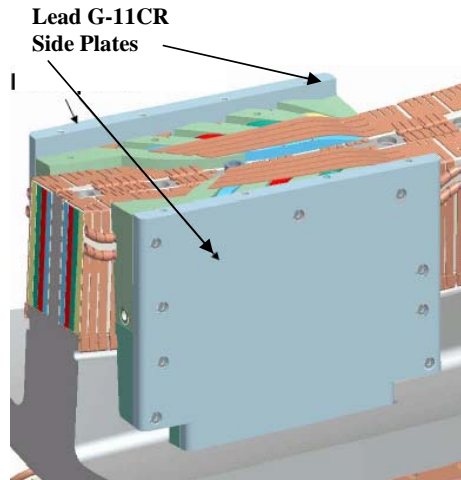

Figure 35- Lead Area Side Plates
- 6.42.3 Re-install the chill plate/side plate assembly and secure in place with the appropriate hardware. Repeat the assembly process for both sides "A" and "B". [Figure 35- Lead Area Side Plates] Seal all seams with RTV-108.